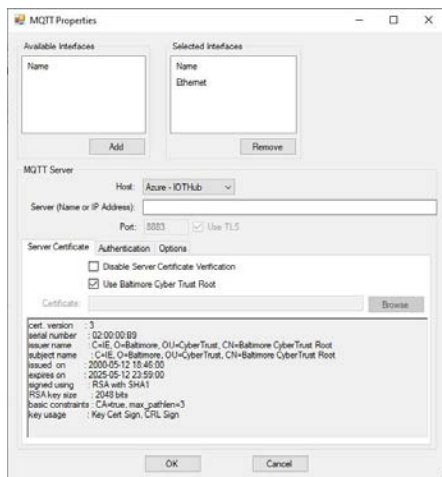

Figure 28-6A
b. Server Certificate tab. Refer to Figure 28-6A.